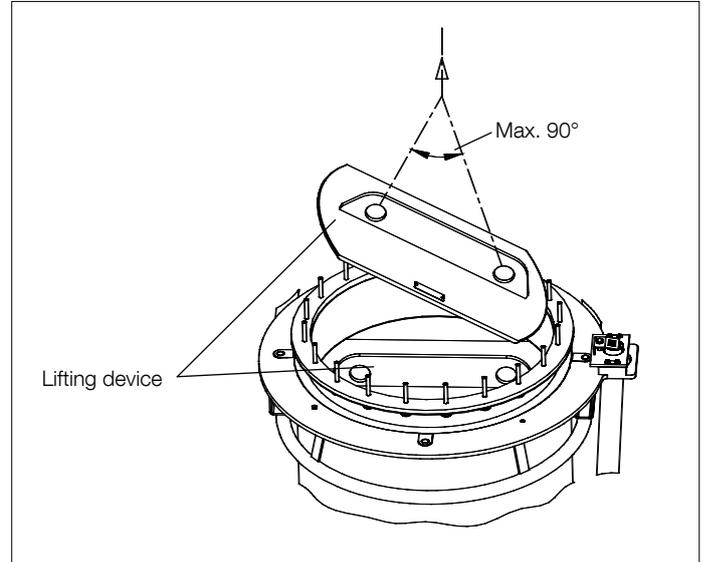

Fig. 15. Attachment of lifting device.
3. Attach the lifting device LL 136 016-D according to Fig. 15.
5. Lift the tap-changer slowly until it just touches the upper flange. Use lifting device LL 136 016-D. Attach the device at the lower flange sides. The lifting device must be tilted when attaching and removing; see Fig. 15.